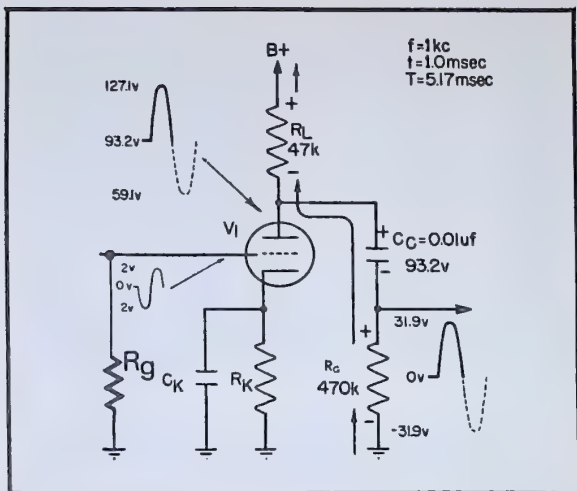

Fig. 10-9. Cathode-biased class A amplifier circuit.
**Cathode-Biased Class A Amplifier.** A cathode-biased class A amplifier is shown in Fig. 10-9. Note that input and output signal polarities (phase relationships) are shown in the accompanying waveforms. This is a conventional amplifier for use in audio circuits; characteristically, its input and output impedances are high. The stage is not very efficient because it requires current during 100% of the signal's cycle. A significant advantage, however, is the circuit's freedom from distortion. Also, the stage requires very little drive and provides excellent gain.
During the first 90° of the plate signal, the plate-to-ground voltage rises rapidly to 127.1V. Since the voltage from plate to ground is 127.1V and the voltage across  $C_c$  is only 93.2V,  $C_c$  will attempt to charge an additional 33.9V. The charge path for  $C_c$  is designated by the arrows in Fig. 10-9. Electrons leave the negative terminal of  $E_{BB}$  (ground) and flow up through  $R_g$ ,  $C_c$ , and  $R_L$  to the positive terminal of  $E_{BB}$  ( $B+$ ), and then through  $E_{BB}$ , completing the
In brief, the single-ended class A stage shown in Fig. 10-9 has these characteristics: